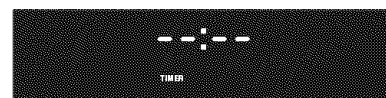

Figure 5
1. Press . "--:--" will appear and "TIMER" will flash in the display (Figure 5).